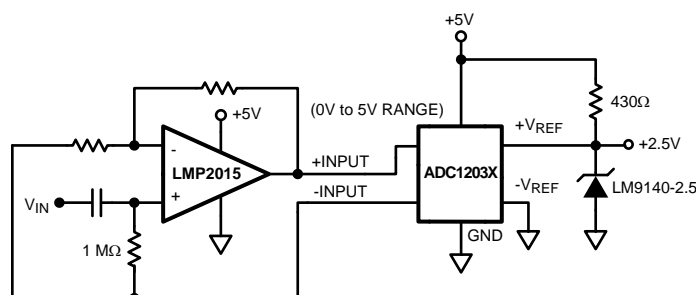
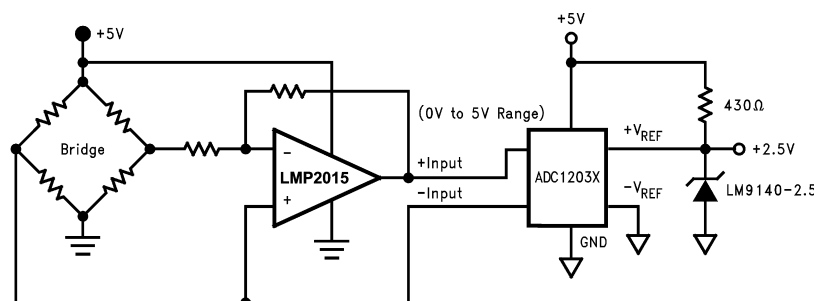

Figure 10. AC Coupled ADC Driver
Figure 11. DC Coupled ADC Driver
The LMP2015 is a great choice for an amplifier stage immediately before the input of an ADC (Analog-to-Digital Converter) as an ADC driver, whether AC or DC coupled. See Figure 10 and Figure 11. This is because of the following important characteristics:
- E) Rail-to-Rail output swing maximizes the ADC dynamic range in 5V single supply converter applications. Figure 10 and Figure 11 are typical block diagrams showing the LMP2015 used as an ADC driver.